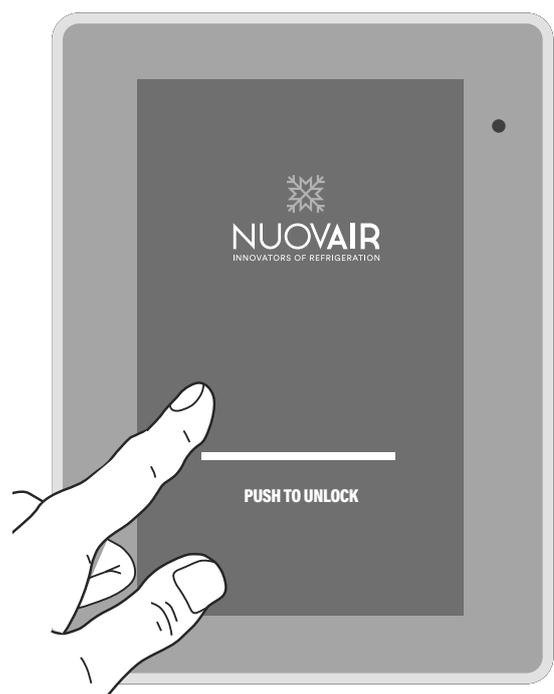

figure 4
- 11 - "Lock screen" button, when pressed, displays the screen shown in fig. 4
Lock screen (Fig. 4).